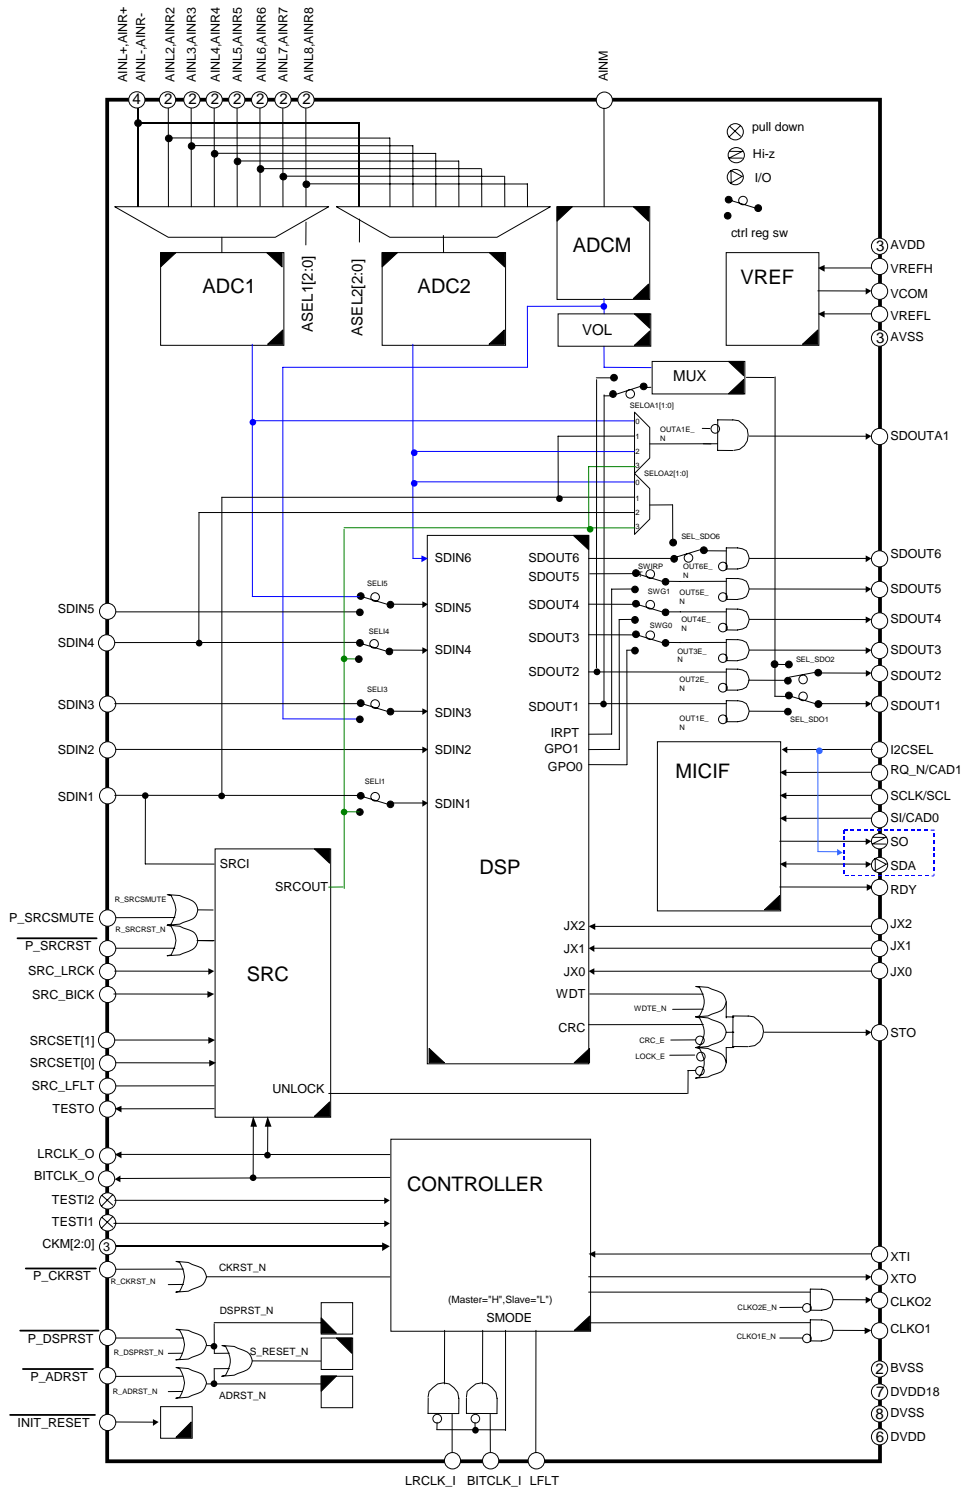

Figure 1. Whole Block Diagram
* Figure 1 shows a simplified diagram of the AK7780, which isn't the perfect same as the actual circuit diagram. Each ▲ describes the relationship of reset control and target reset blocks.